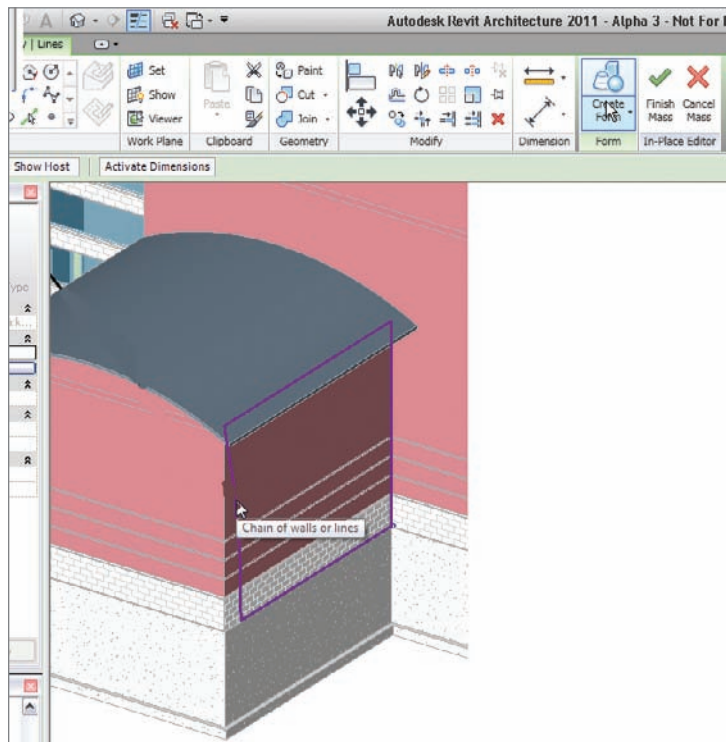

FIGURE 16.44 The Create Form button
9. Zoom in on the perimeter you have sketched and select it, as shown in Figure 16.44.
10. On the Form panel of the Modify | Lines tab, click the Create Form button, as shown in Figure 16.44.